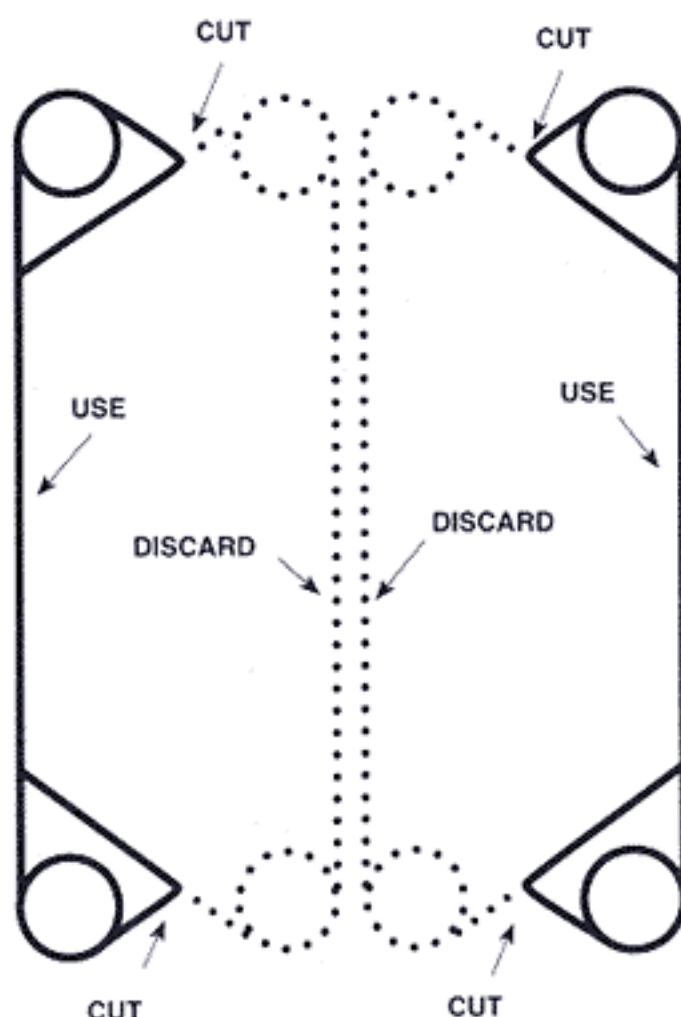

FIGURE 1
2. Cut gaskets as indicated in Figure 1.